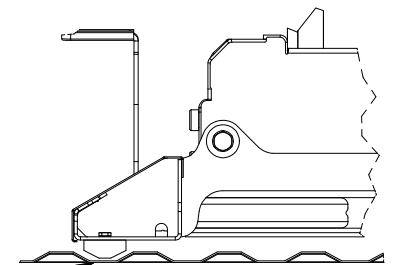

Figure B3: Back view of the driver side leg of the Slider Base.
5. Square the slider base legs with the ribs of the truck. Position the polyurethane pads so that they are both in a bottom rib along their entire length, see Figure B3. Tighten the four 1/4" bolts holding the pads to the base.